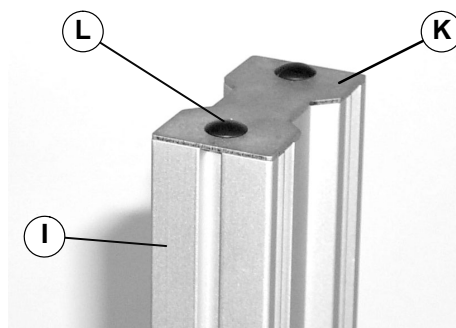

Figure 11
2. Attach tube end cover (K of Figure 11) on stand leg (I) with two plastic tree rivets (L).